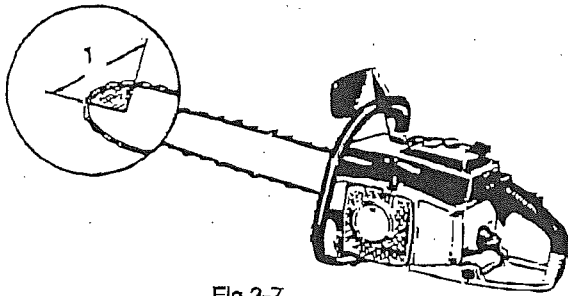

Fig.2-7
**KICKBACK DANGER (Fig. 2-7)**
**DANGER DE REBOND (Fig.2-7)**
**PERICOLO DI CONTRACCOLPI (Fig. 2-7)**
**RÜCKSCHLAGGEFAHR (Fig. 2-7)**
**PELIGRO DE CONTRAGOLPE (Fig. 2-7)**
**RISK FÖR KAST (Fig. 2-7)**